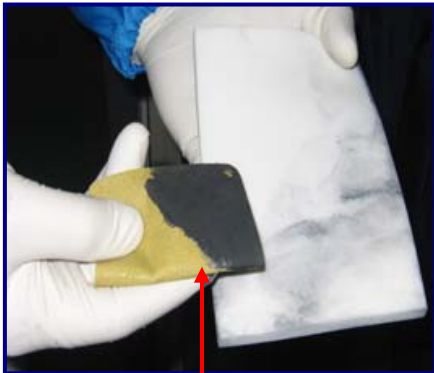

Fig 2: ScrubPAD loaded with deposition water
Step 7: As necessary, unload the ScrubPADS of deposition by wiping the ScrubPADS with HT4754 UltraSOLV[®] Sponge in one direction (See Fig 2, 3 & 4)